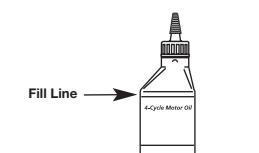

Fig. 40
- Use the bottle and spout saved from initial use to measure the correct amount of oil. The top of the label on the bottle measures approximately 3.04 ounces (90 ml) (Fig. 40). Check the level. See Checking the Oil Level. If the level is low, add a small amount of oil and recheck. Do not overfill (Fig. 36).